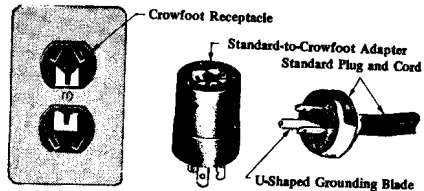

FIGURE 2. Standard-to-crowfoot Adapter.
- 3.02 All electric power tools (except lamps and soldering coppers) should be equipped with a 3-conductor cord which terminates in a 3-blade plug (see Figure 2). Lamps and soldering coppers do not require grounding.
**NOTE:** The standard to crowfoot adapter must be used when the receptacle is a crowfoot type and the plug is standard. See Figure 2.